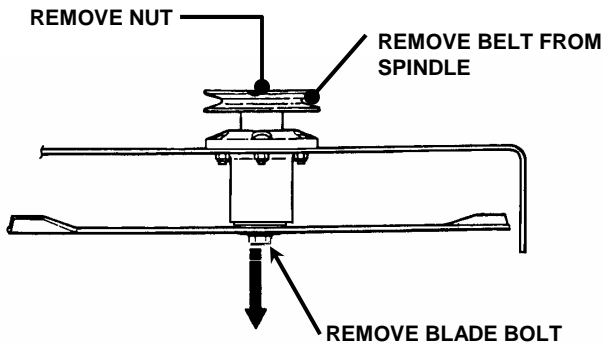

FIGURE 4.38
1. Remove belt. Loosen blade nut and remove. Allow blade bolt, washer, blade and four spacers to drop down out of the spindle housing. See Figure 4.38.